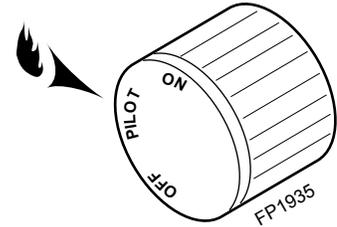

Figure 9
1. Attach flex connector. Turn on the gas shut off valve. Turn the control knob to the "PILOT" position only. *Figure 9*